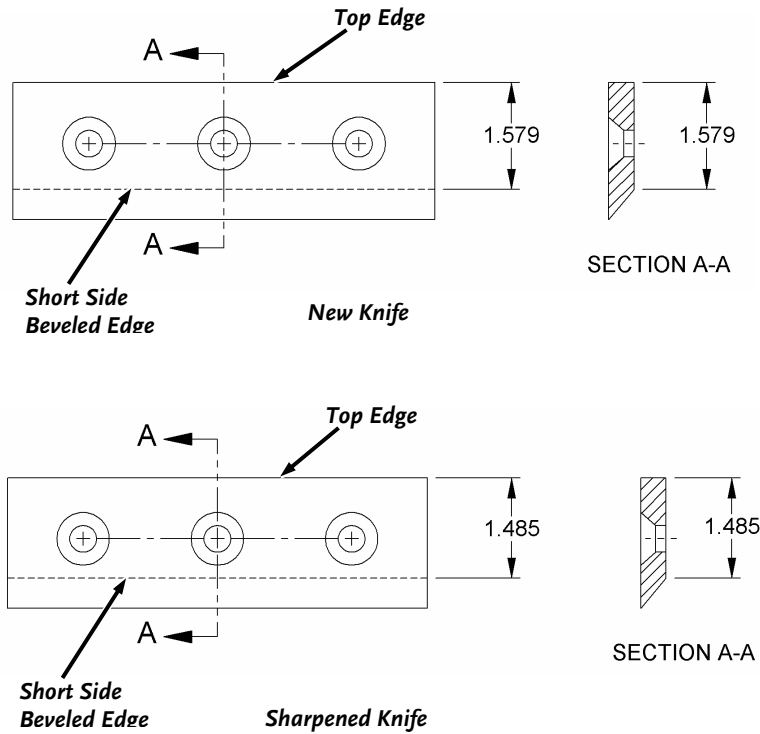

Figure 45
- A new Chipper Knife has 1.579" measurement between the short side bevel edge and the Knife Top Edge (**Figure 45 "New Knife"**).
- Once this measurement is below 1.485" (see **Figure 45 "Sharpened Knife"**), or if you are unable to remove dents or gouges with these guidelines, replace the Knife.